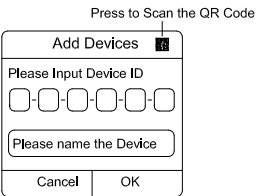

Fig.1
- a.Add switches: in the switches list, click the icon at the top-right corner, and press "add" to access to the pop-up box as shown in Fig. 1. Input switch ID or scan the QR code and input the passwords to add the switches.